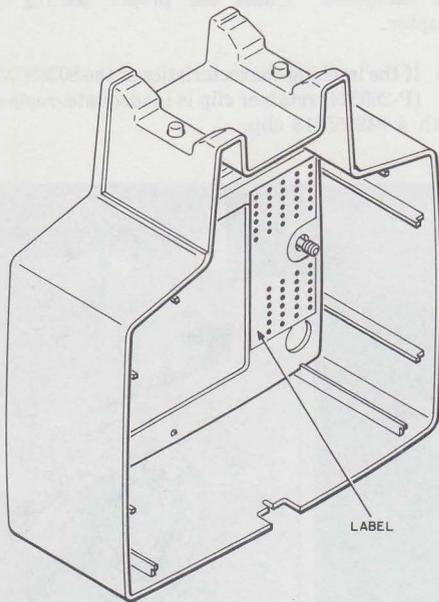

Fig. 16—Connecting Block Wiring Label
**3.08** Since individual terminals are not designated on the quick-connect blocks, a label is provided on the inside of the housing as a wiring guide (Fig. 16). Terminals 1-30 are on the upper block and 31-54 are on the lower block. Terminals 51-54 are spare. Use a 714B tool to terminate conductors.
and 27 using the label inside the housing as a guide in locating terminal numbers (Fig. 16).